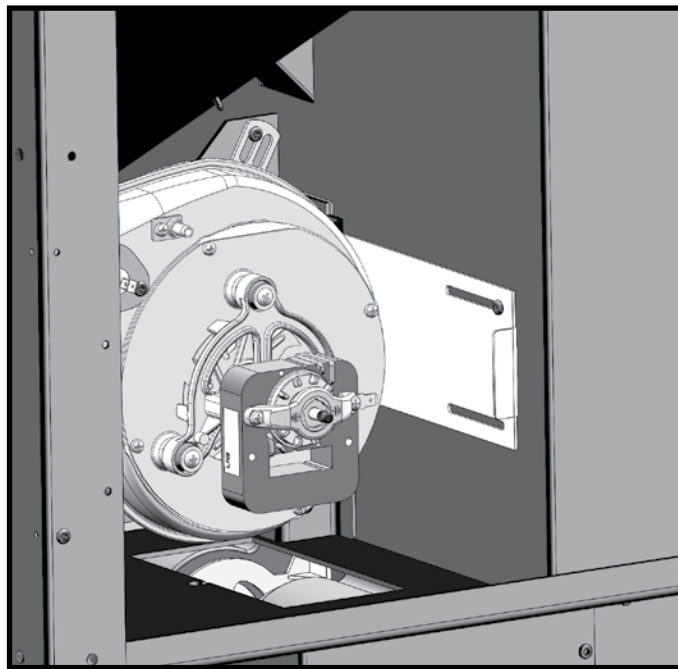

Figure 15: TN40 Damper.
2. Locate the double screw terminal wiring block at the top of the board (See Figure 15), loosen the two screws on the block. Insert one of the wires from the thermostat into one of the slots and tighten the screw. Repeat this process for the other thermostat wire.
- To increase the vacuum in the firebox, pull the damper out towards the outside of the stove See "Figure 15: TN40 Damper." and push it in to reduce the vacuum.